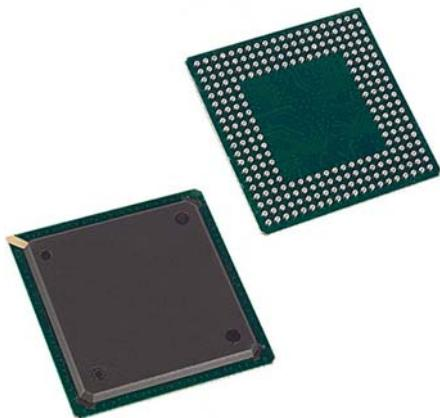

Figure Q6[a]
- Q6. [a] Refer to Figure Q6[a]. Identify the type of package of this electronic component and briefly describe the processes involved in the manufacturing of this package.**
- [b] If the package in Figure Q6 [a] is a component of a system board, how will you mount this package onto a printed circuit board (PCB) of a system board? Please discuss.